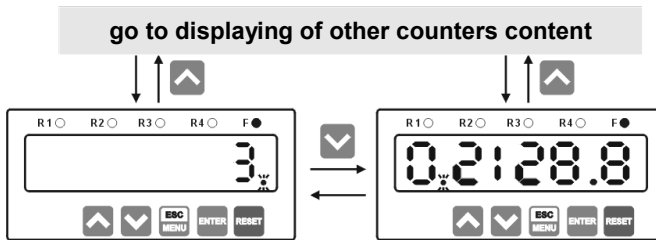

Figure 6.2. Selection between less and more significant half of the totalizer
To change displayed half, press **[V]** button. When more significant half is showed on the display, it's most right decimal point flashes. Described situation is showed in Figure 6.2:
In Figure 6.2 is showed situation, where totalizer value is equal to 302128.8. Most significant digit (3) must be displayed in more significant half, the rest of the digits can be displayed in less significant half. Because of totaliser's content must be displayed into two halves, zero on left side of less significant half is displayed, and most left decimal point flashes signalling that more significant half is available. Simultaneously right decimal point (between eights) lights constantly, indicating decimal point position.